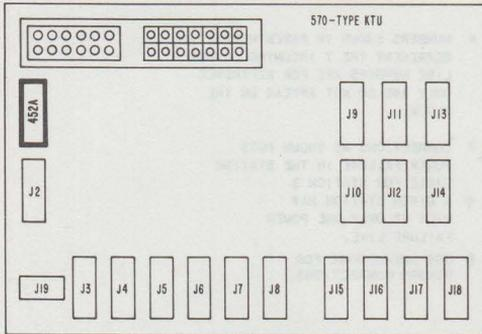

Fig. 39—Location of 452A KTU, Power Failure Transfer
**4.58** Install 452A KTU in J1. See Fig. 39 for KTU location.